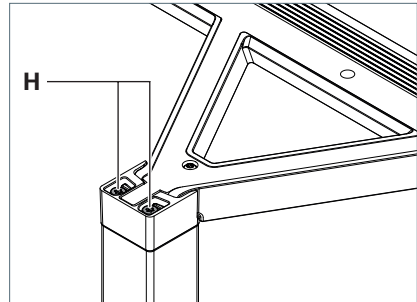

Fig. 10: Adjusting the luminaire head.
- To lower the luminaire head, turn the adjusting screws **H** anti-clockwise, see Fig. 10.